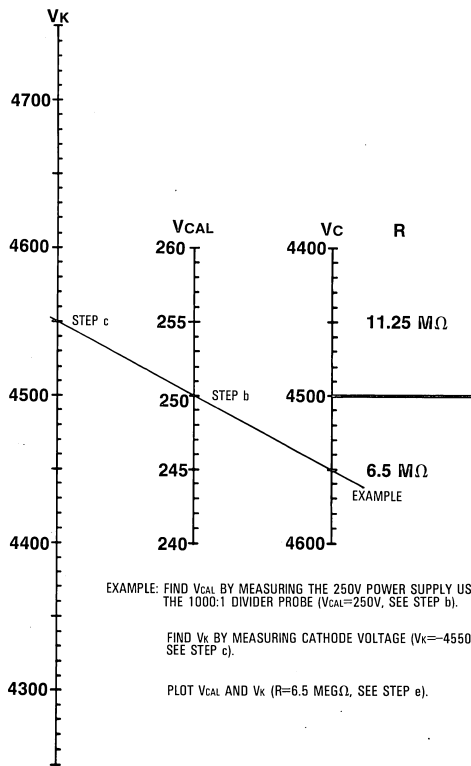

Figure 5-3. High Voltage Shutdown Circuit Nomograph
- d. Plot  $V_{CAL}$  and  $V_K$  on the Nomograph in figure 5-3. If  $V_{CAL}$  plots off the Nomograph, then the 1000:1 Divider Probe does not meet the required  $\pm 3\%$  accuracy. If  $V_K$  or  $V_C$  plot off the Nomograph, then one or more of the following resistors must be out of tolerance: A9R3; A9R4; A9R24.
- e. Temporarily connect resistor "R" (value obtained from figure 5-3) in parallel with A9R3 (750 K $\Omega$ ). If the addition of resistor "R" triggers the high voltage shutdown circuit, (A9TP1 becomes positive and high voltage shuts down), remove "R" and proceed to the next test.